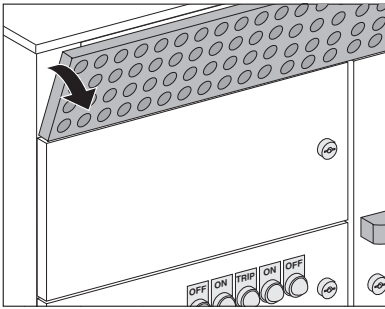

Fig. 9a
- First tilt the grate forward to unclip it from the frame (see Fig. 9a).